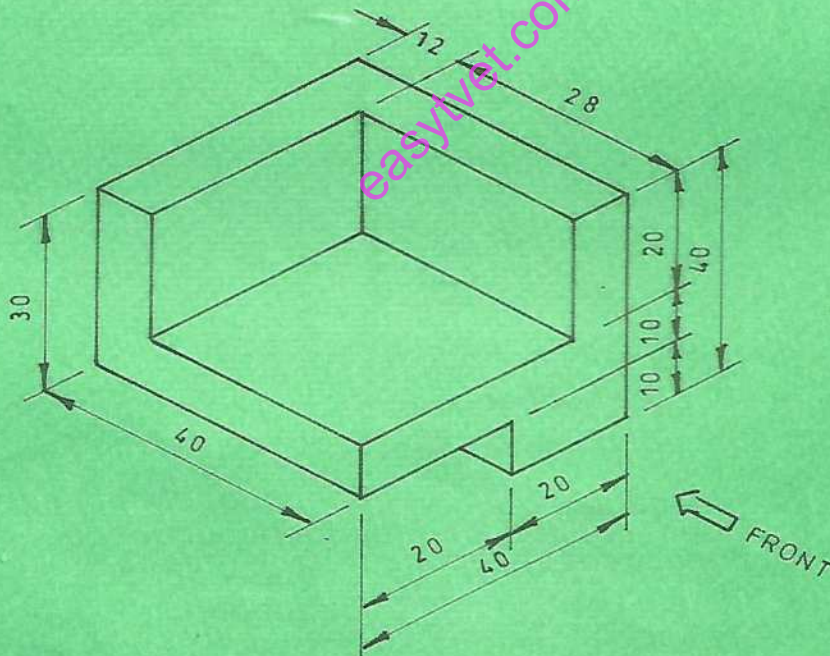

Fig. 10
10. Figure 10 shows a pictorial drawing of a block in isometric projection.